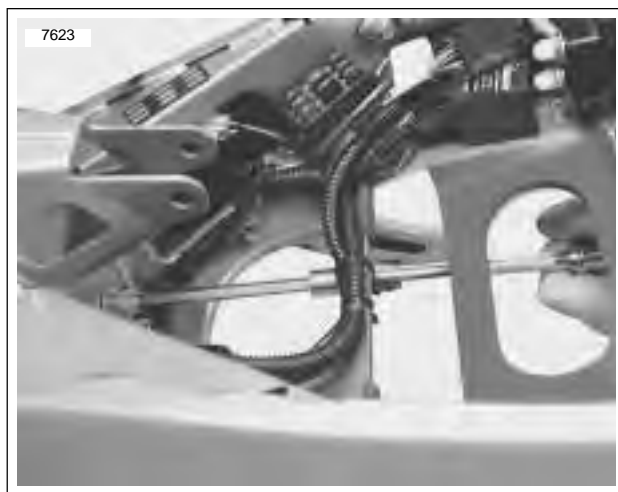

Figure 3-14. Removing Rear Motor Mount Bolts
- 32. See Figure 3-14. Remove rear motor mount bolts.